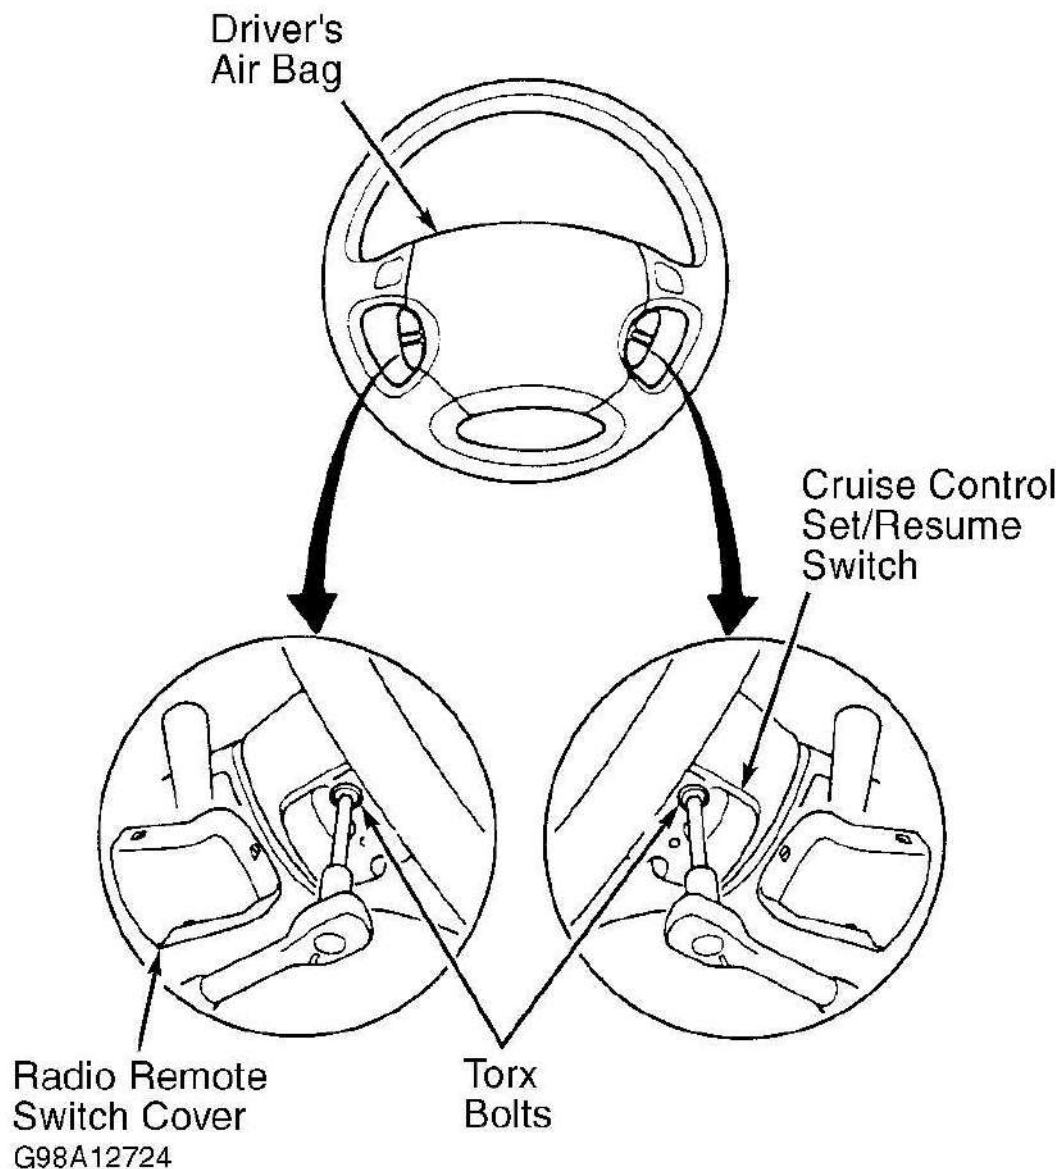

Fig. 5: Removing Driver-Side Air Bag Assembly (All Models)
1. Deactivate air bag system. See **DISABLING SYSTEM** under DISABLING & ACTIVATING AIR BAG SYSTEM. Position front wheels straight-ahead. Remove left side maintenance lid and cruise control switch lid. Note position of all connectors. Disconnect cruise control, horn and radio switch, if equipped. Remove Torx bolts and discard. Remove air bag assembly. See **Fig. 5**.